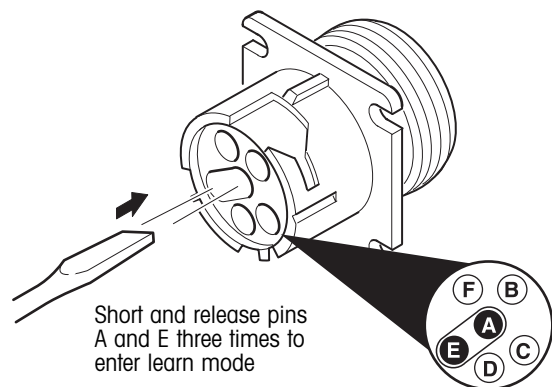

Figure 26. Entering learn mode
3. Remove the weather cap from the diagnostic connector on the HTIS harness (figure 26). Using a screwdriver, short pins "A" and "E" together three consecutive times for the following